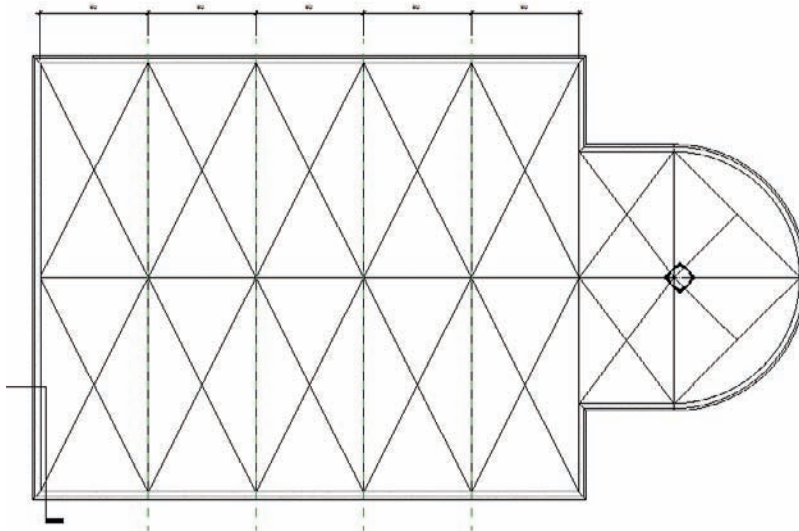

FIGURE 7.16 The completed roof
9. Your roof should look like Figure 7.16 when you have finished.